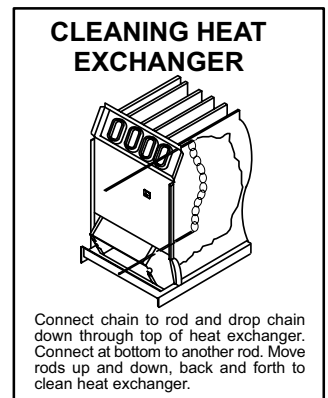

FIGURE 18
- 8- Insert a 2 ft. steel rod with a 20 in. length of chain attached to one end into top opening of heat exchanger. Refer to figure 18.